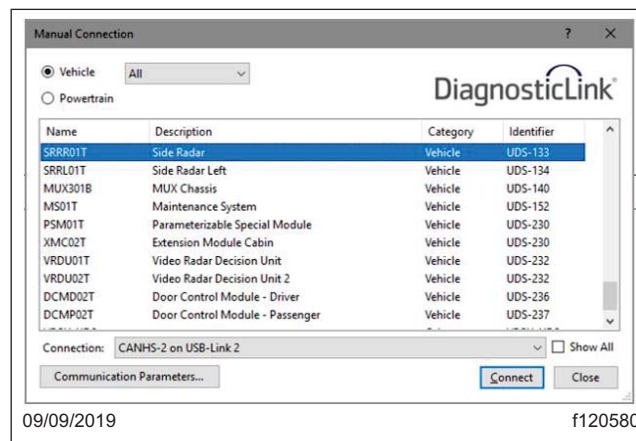

Fig. 28, DiagnosticLink Manual Connection Window
- From the menu bar, select 'File,' then go to 'Connect.' In the 'Manual Connection' window, select 'SRRR01T,' then select 'Connect.' See Fig. 28.